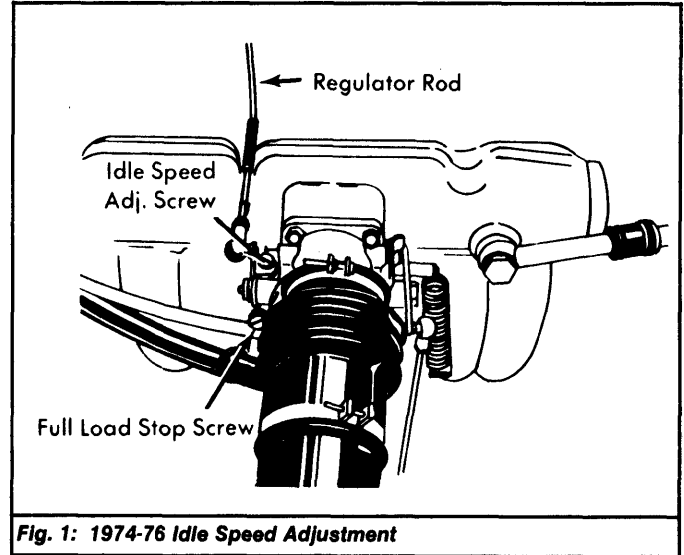

Fig. 1: 1974-76 Idle Speed Adjustment
2) Remove oil plug screw from engine and install tachometer drive. Disconnect rod connecting angle lever to throttle duct. Adjust idle speed to 700-800 RPM by turning idle speed screw. See Fig. 1.